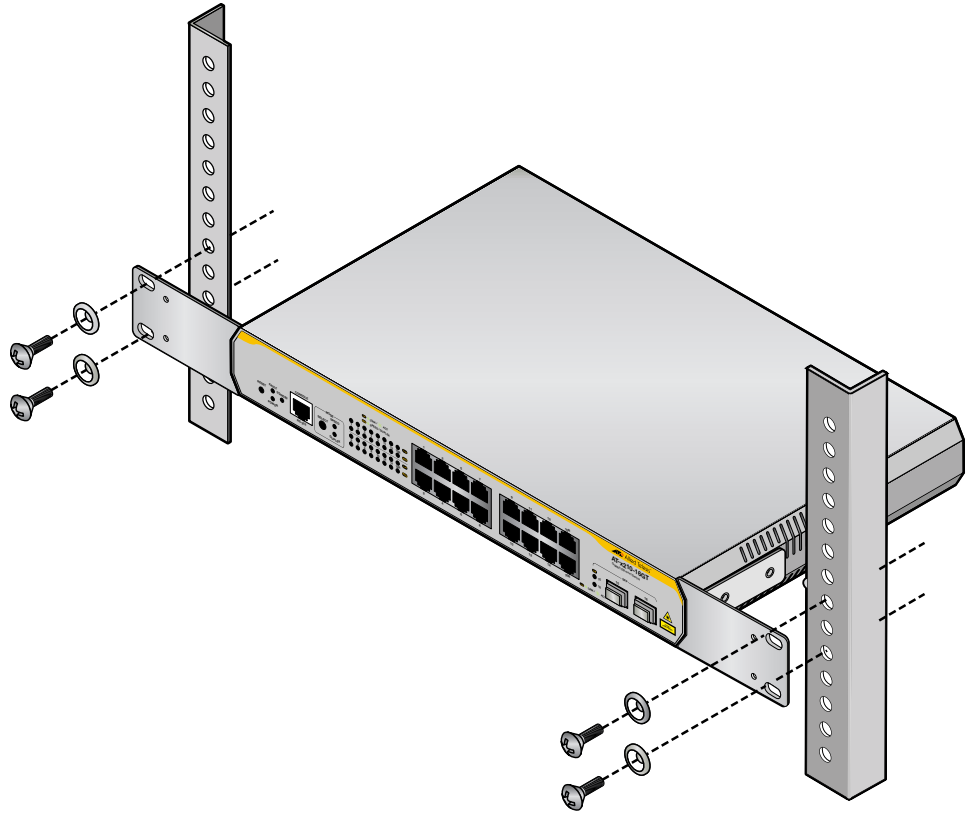

Figure 20. Mounting an AT-x210-16GT Switch in an Equipment Rack
6. Mount an AT-x210-16GT switch in a 19-inch equipment rack using the provided spacer bracket mounts with four equipment rack screws (not provided with the switch), as shown in Figure 20.